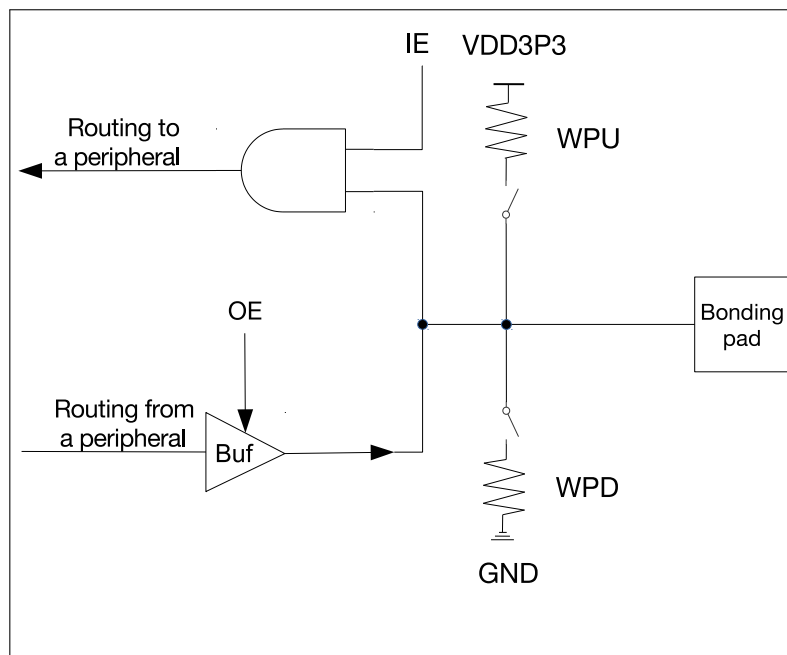

Figure 5.3-3. Internal Structure of a Pad
- Figure 5.3-3 shows the interface logic for a GPIO pin.
Figure 5.3-3 shows the internal structure of a pad, which is an electrical interface between the chip logic and the GPIO pin. The structure is applicable to all 22 GPIO pins and can be controlled using IE, OE, WPU, and WPD signals.